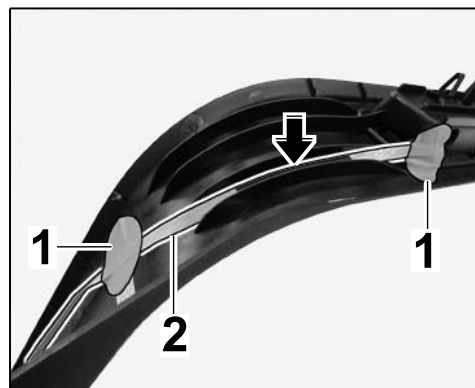

Figure 14
- 2.4.3 Clean the bonding surfaces of the connector and flat conductor path (see $\Rightarrow$ Figure 14) on the underside of the inner door sill trim using cleaning agent to remove any grease and dust.
Route the flat conductor path $\Rightarrow$ Figure 14 -2- between the outer reinforcing ribs $\Rightarrow$ Figure 14 -arrow- and secure it to the inner door sill trim using two adhesive pads $\Rightarrow$ Figure 14 -1-.